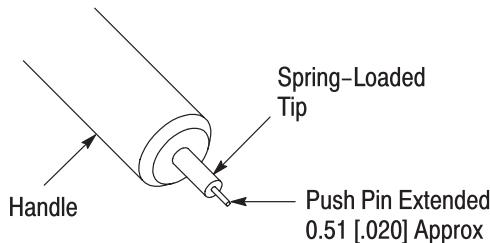

Figure 2
- Turn the adjustment cap *clockwise* until the push pin is extended (approximately 0.51 [.020]) beyond the end of the spring-loaded tip. Refer to Figure 2.